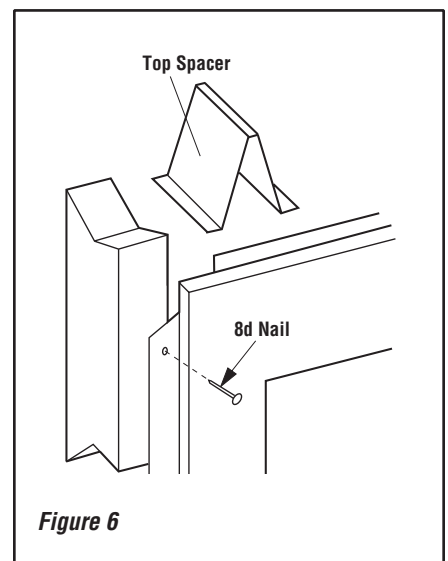

Figure 6
Step 3. Fireplace should be secured to side framing members using the full length nailing tabs at the top and bottom of the fireplace front face. Use 8d nails or equivalent nail or screw (see **Figure 6**).